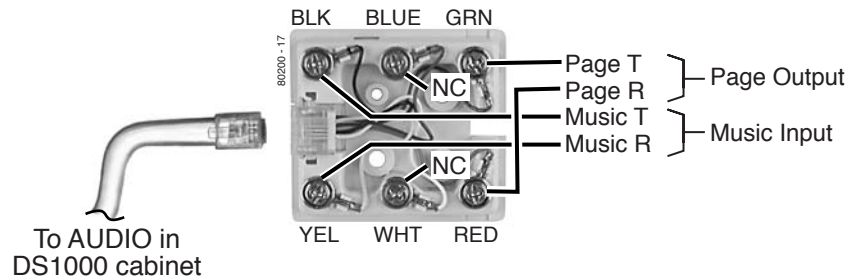

Figure 4-3: Installing a Music Source
**To connect a music source (Figure 4-3):**